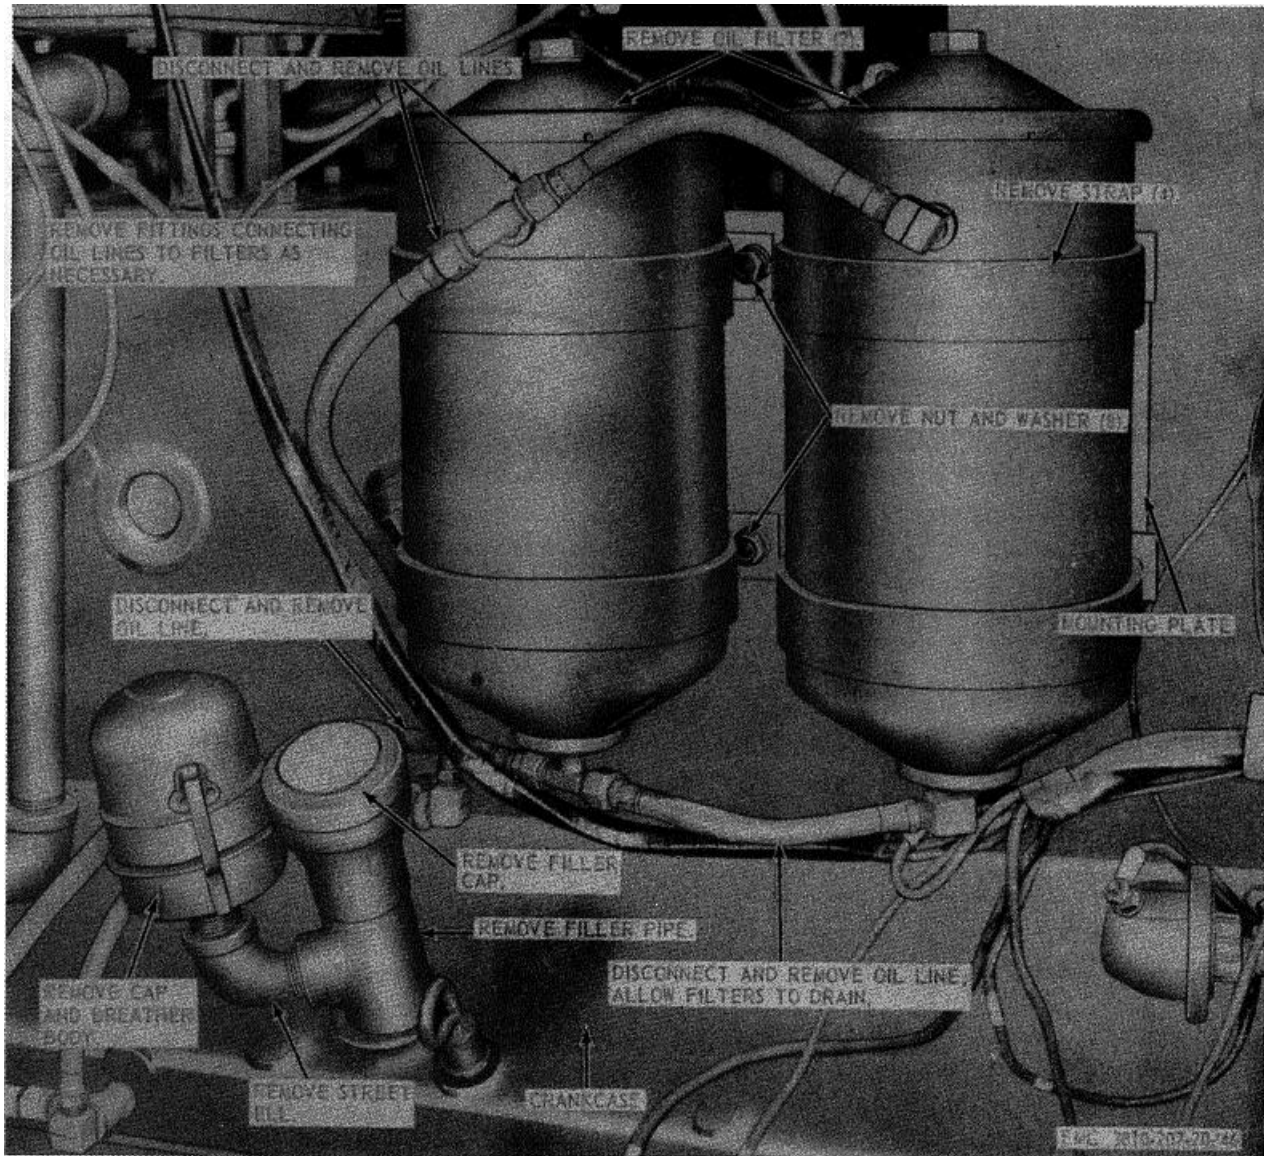

Figure 46. Oil filters, crankcase filler, and breather, removal and installation.
a. Removal. Remove the oil filter as instructed on figure 46.
- (1) Clean all parts with an approved cleaning solvent.
- (2) Inspect all lines and fittings for damage. Replace defective lines and fittings.
- (3) Inspect the oil filter bodies and mountings for dents, breaks, and other damage. Repair or replace all defective parts.
- (4) Replace filter elements and gaskets.
- (1) Install the oil filter as illustrated on figure 46.
- (2) Service the oil filters (TM 5-3810207-10).
a. Removal. Remove the crankcase filler and breather as instructed on figure 46.
- (2) Inspect all parts for breaks, cracks, and other damage. Replace all defective parts.
c. Installation. Install the crankcase filler and breather as illustrated on figure 46.